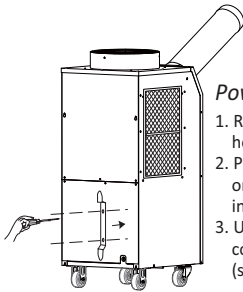

Figure 3 – Power Cord Holder attachment
2. Place the power cord holder on the rear of the unit as shown in Figure 3